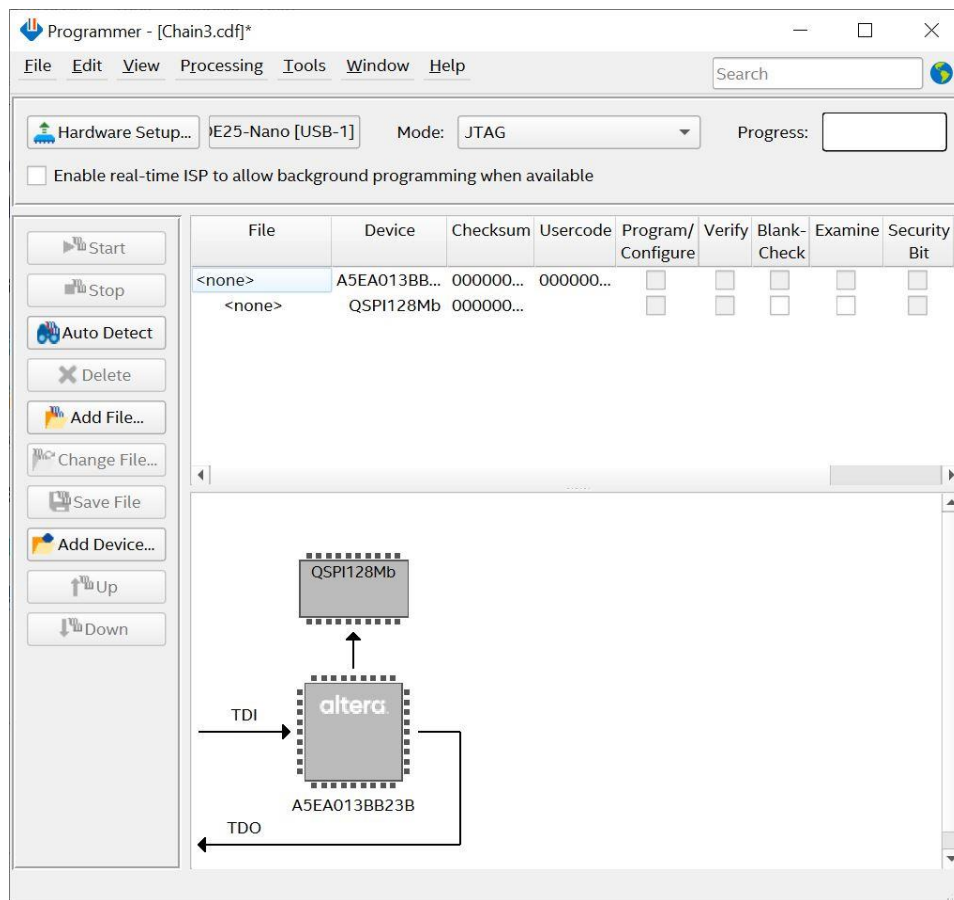

Figure 4-5 JTAG Chain on DE25-Nano board
6. The FPGA device and QSPI flash of DE25-Nano board are detected under Programmer, as shown in **Figure 4-5**. Note :The user will see the **QSPI flash** on the JTAG chain because the FPGA configuration mode is set to **AS** mode.